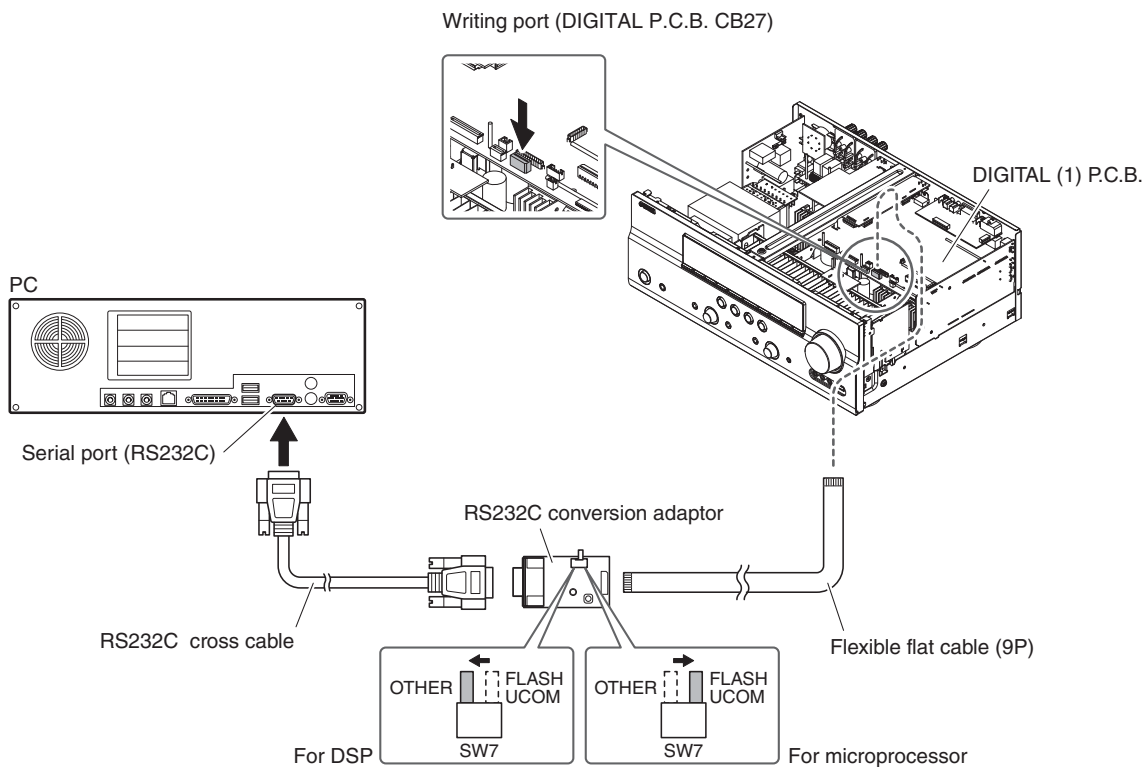

Fig. 1
- Connect the writing port (CB27 of DIGITAL P.C.B.) of this unit to the serial port (RS232C) of the PC with RS232C cross cable, RS232C conversion adaptor and flexible flat cable as shown below. (Fig. 1)
- Set the switch (SW7) of RS232C conversion adaptor as shown below. (Fig. 1)